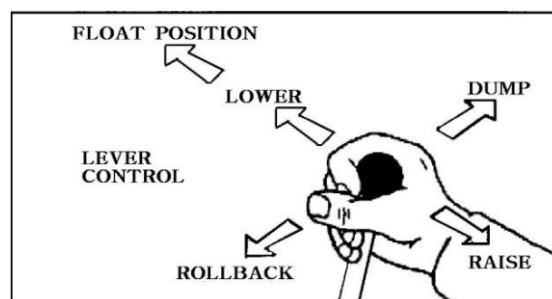

Fig 4.7. Lowering.
- After the bucket is dumped, back away from the vehicle while lowering and rolling back the bucket shown in figure 4.7.